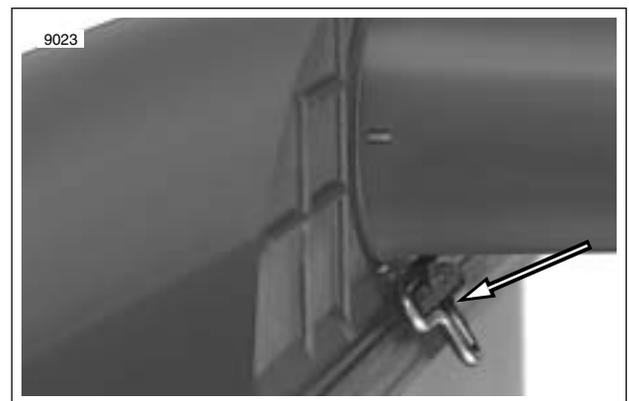

Figure 1-8. Front Airbox Clip
12. See Figure 1-8. Front clip under snorkel is attached to top section and must be fastened over the lip on the air filter bottom.